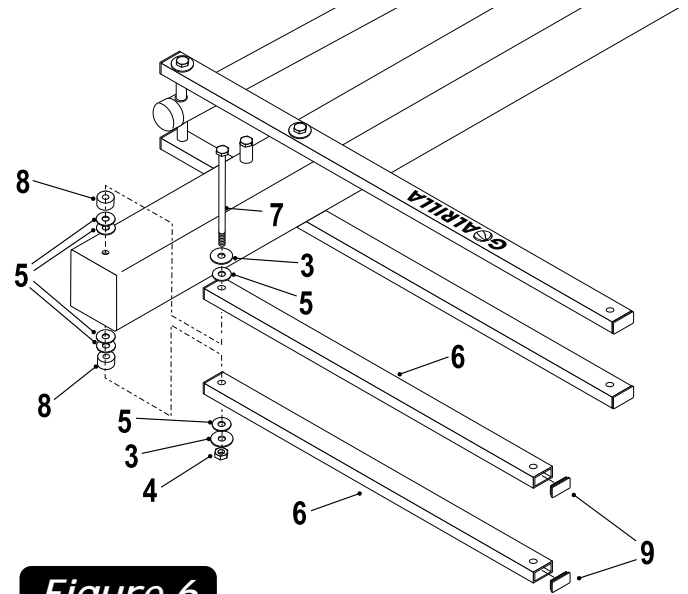

Figure 6
8. Attach Upper Arms (#6) to Pole (#2), as shown in Figure 6, using a bolt (#7), two flatwashers (#3), six plastic washers (#5), two spacers (#8) and one hex nut (#4). Tighten bolts snug but, do not over tighten. Board Arms must pivot freely.